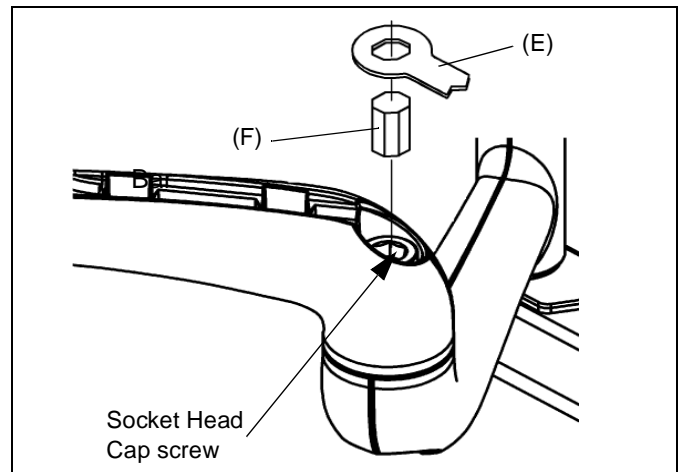

Figure 14
1. Locate the adjustment insert (F) and wrench (E) provided with the mount.
2. Place adjustment insert into socket head cap screw located at swing arm pivot point. (See Figure 14)